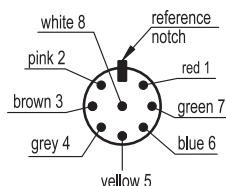
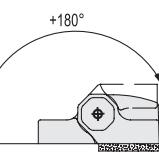

Fig.1
Fig.2
- The hinge must not be used as a mechanical end-stroke either for door maximum opening or for closed door. For this purpose we recommend using external mechanical stops to prevent the door from opening completely against the hinge body assembled on the frame (fig.1) or exceeding the angle where the two interconnected surfaces are on the same plane (fig.2).
Max 180° (0° and +180° being 0° the condition where the two interconnected surfaces are on the same plane fig.1). The switching angle (see Built-in safety multiple switch functioning and maintenance) is guaranteed from this position. The condition where the two interconnected surfaces are on the same plane is to be strictly verified because the hinge must not be stressed by any negative angle (fig. 2).